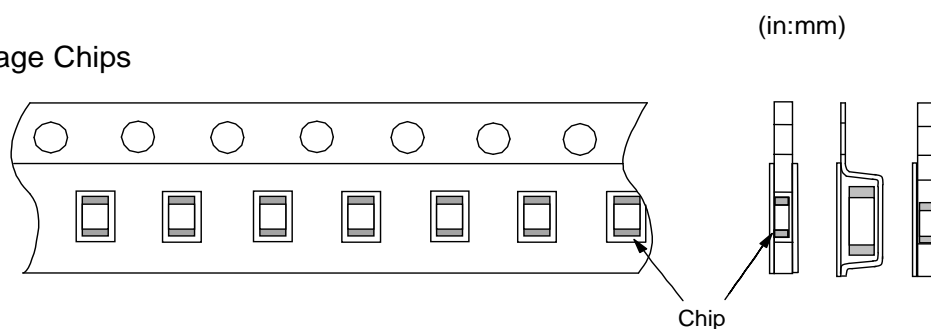

Fig.2 Dimensions of Reel
2.11 Reel is made by resin and appeaser and dimension is shown in Fig 2. There are possibly to change the material and dimension due to some impairment.